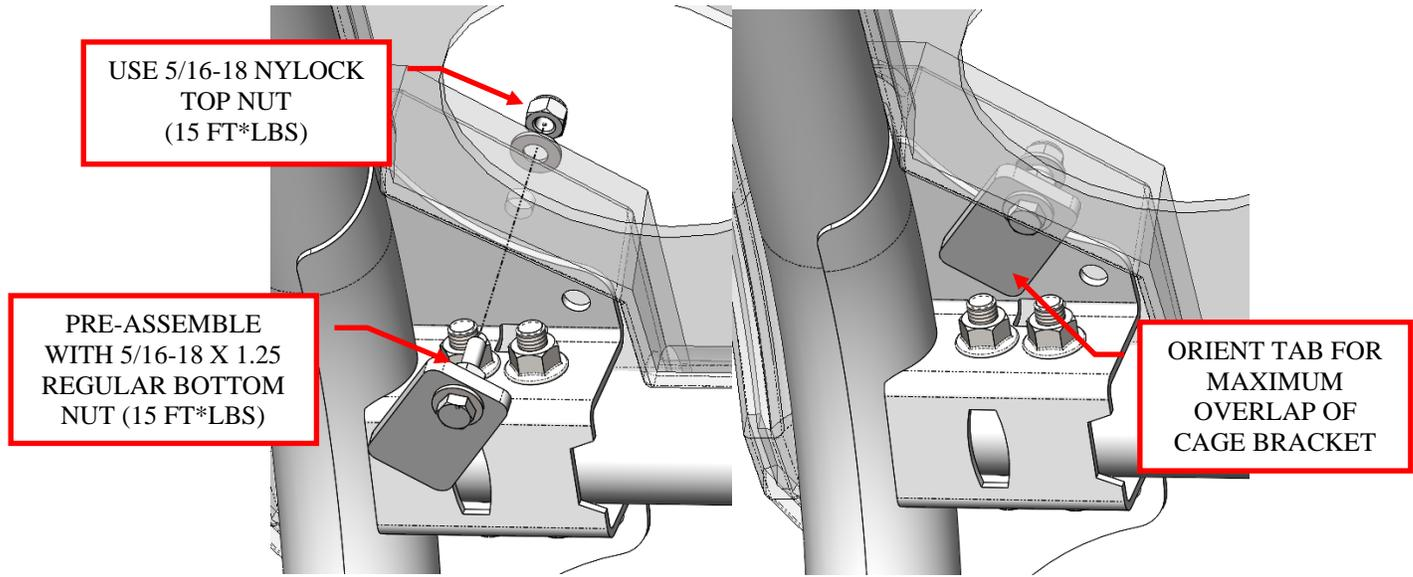

Figure 7: Bolt the roof to the front of the cage (left side shown, right side similar).
5. On the front of the cage, the bolt holes are offset for internal clearance, and a metal tab is used to clamp the cage to the roof. Pre-assemble the tab, bolt, and bottom nut (non-nylock). Fully tighten the bottom nut. It acts as a fulcrum for clamping to the cage. Insert the preassembled tab and nut into the bolt hole in the roof. Reach through the speaker opening to secure the top nut and washer. Make sure to position the tab so it is hooked over the cage bracket with maximum overlap. Tighten to 15 ft*lbs. See Figure 7.